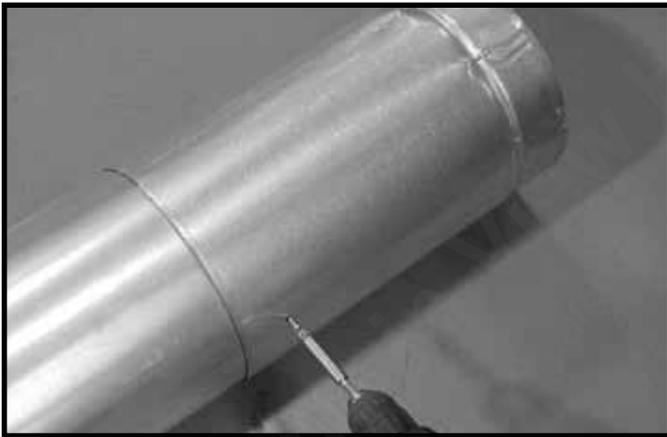

Figure 10.4 Screws into Slip Section
- Secure the pipe and slip section with two screws no longer than 1,3 cm, using the pilot holes in the slip section. See Figure 10.4.